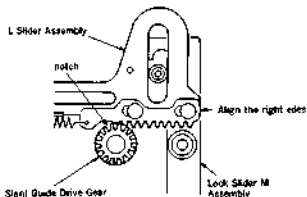

Fig. 4
(3) Press the L-mode select button of the Mode Selector and align the right edges of the L Slider Assembly and the Lock Slider M Assembly. (fig. 4)
(4) Engage the Slant Guide Drive Gear with L Slider Assembly so that the notch of the Drive Gear is 1 tooth away from the left and gear of the L Slider Assembly as shown in the Figure 4.
(5) Assemble the parts with Removal Steps (1) to (5) in reverse order.